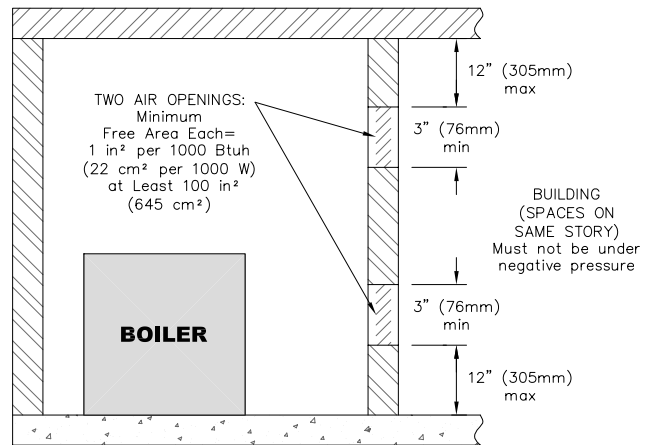

Figure 1.1: Air Openings – All Air from Indoors on the Same Floor
- a. **Combining spaces on the same floor:** Provide two permanent openings communicating with additional spaces that have a minimum free area of 1 in² per 1000 Btu/hr (22 cm² per 1000 W) of the total input rating of all gas fired equipment but not less than 100 in² (645 cm²). One opening is to begin within 12 inches (305 mm) from the top of the space and the other is to begin within 12 inches (305 mm) from the floor. The minimum dimension of either of these openings shall be 3 inches (76 mm). See Figure 1.1 for an illustration of this arrangement.